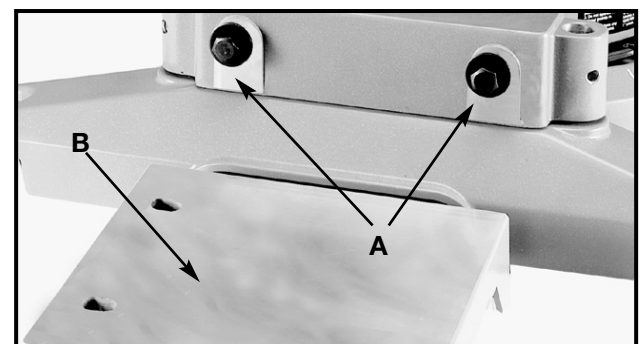
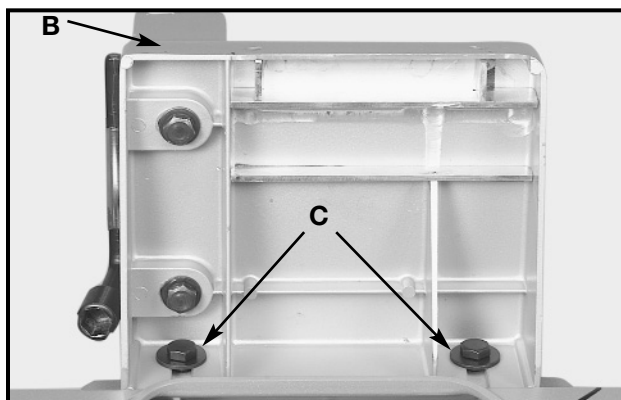
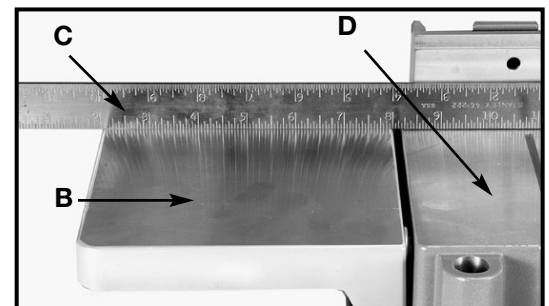

Fig. 7A
Fig. 7B
Fig. 7C
1. Attach flat washers to the two 5/16-18 x 3/4” screw assemblies (A) Fig. 7A, and thread into the threaded holes on left side of the saw.
2. Attach the table extension (B) Figs. 7A and 7B, to left side of saw table, making sure groove of table extension (B) is inside flat washers (C) as shown in Fig. 7B.
3. Use a straight edge (C) Fig. 7C, to make the extension table (B) even with saw table (D), and tighten the two screws (C) Fig. 7B.